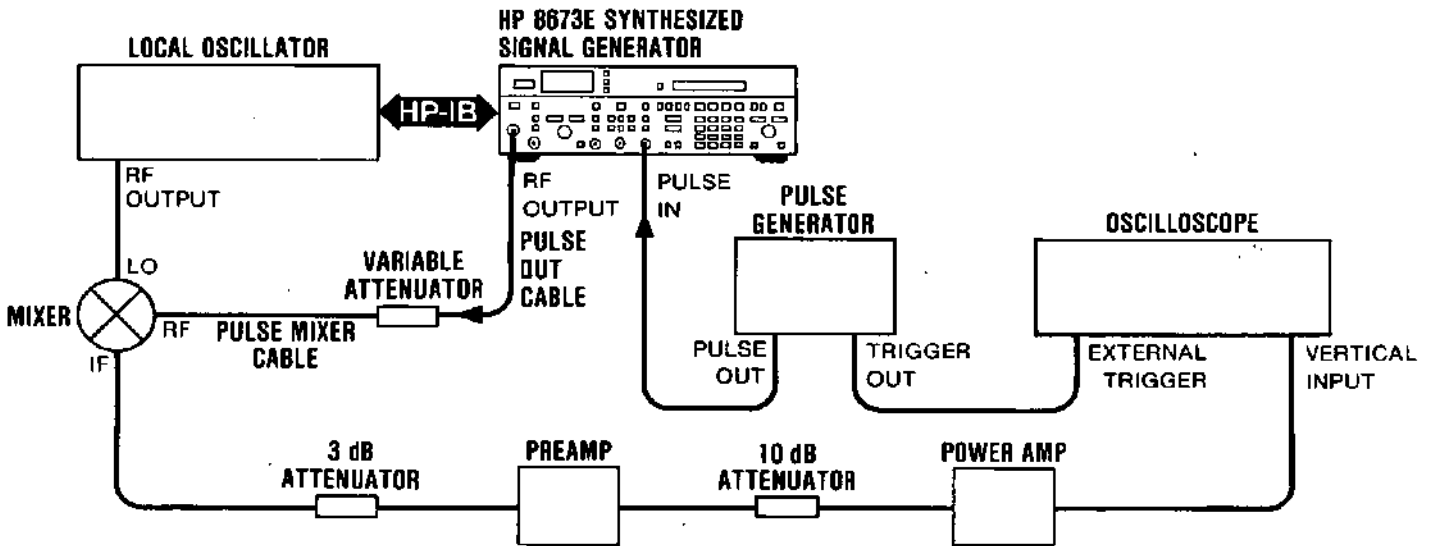

Figure 4-11. Pulse Overshoot and Ringing Test Setup
1. Connect equipment as shown in Figure 4-11. See Figure 4-12 for the required physical interconnections.